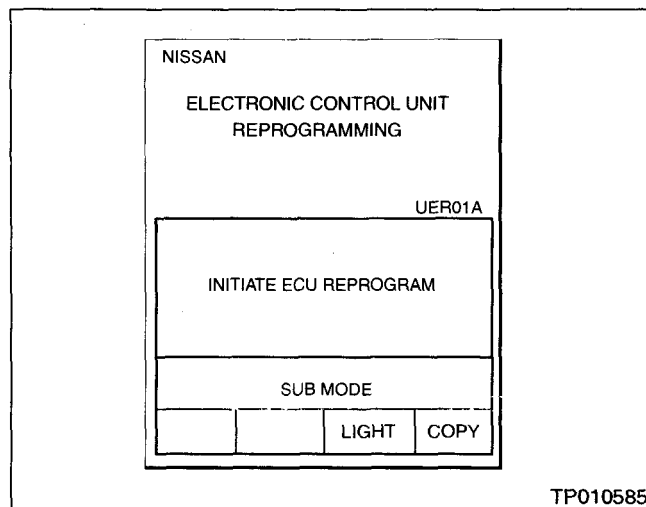

Figure 18
27. **Make sure the DLC-II cable is firmly plugged into the vehicle harness** (see **CAUTION** below). Turn "ON" the ignition switch (do not start the engine). CONSULT-II will turn on automatically (see Figure 18).